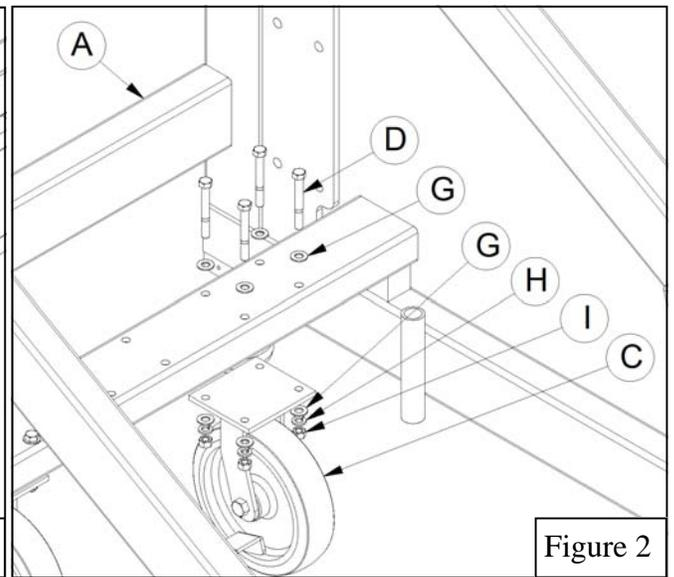

Figure 2
2. Install *Swivel Casters* (C) with *3/8" x 3" Hex Bolts* (D), *3/8" Flat Washers* (G), *3/8" Lock Washers* (H) and *3/8" Hex Nuts* (I). See Figure 2.